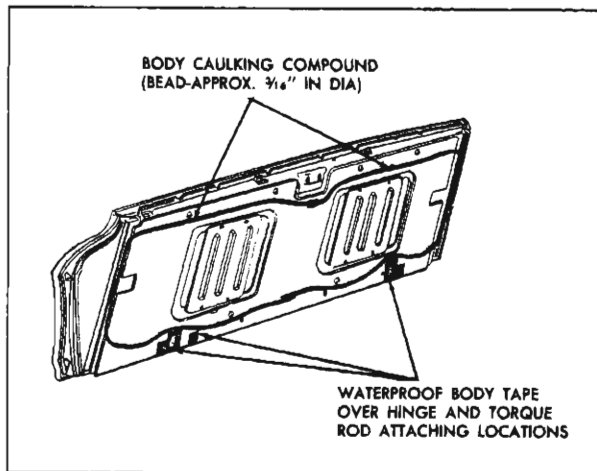

Fig. 93—Tail Gate Inner Panel Sealing
3. Apply a bead of body caulking compound (approximately $\frac{3}{16}$ " diameter) to tail gate inner panel (fig. 93).